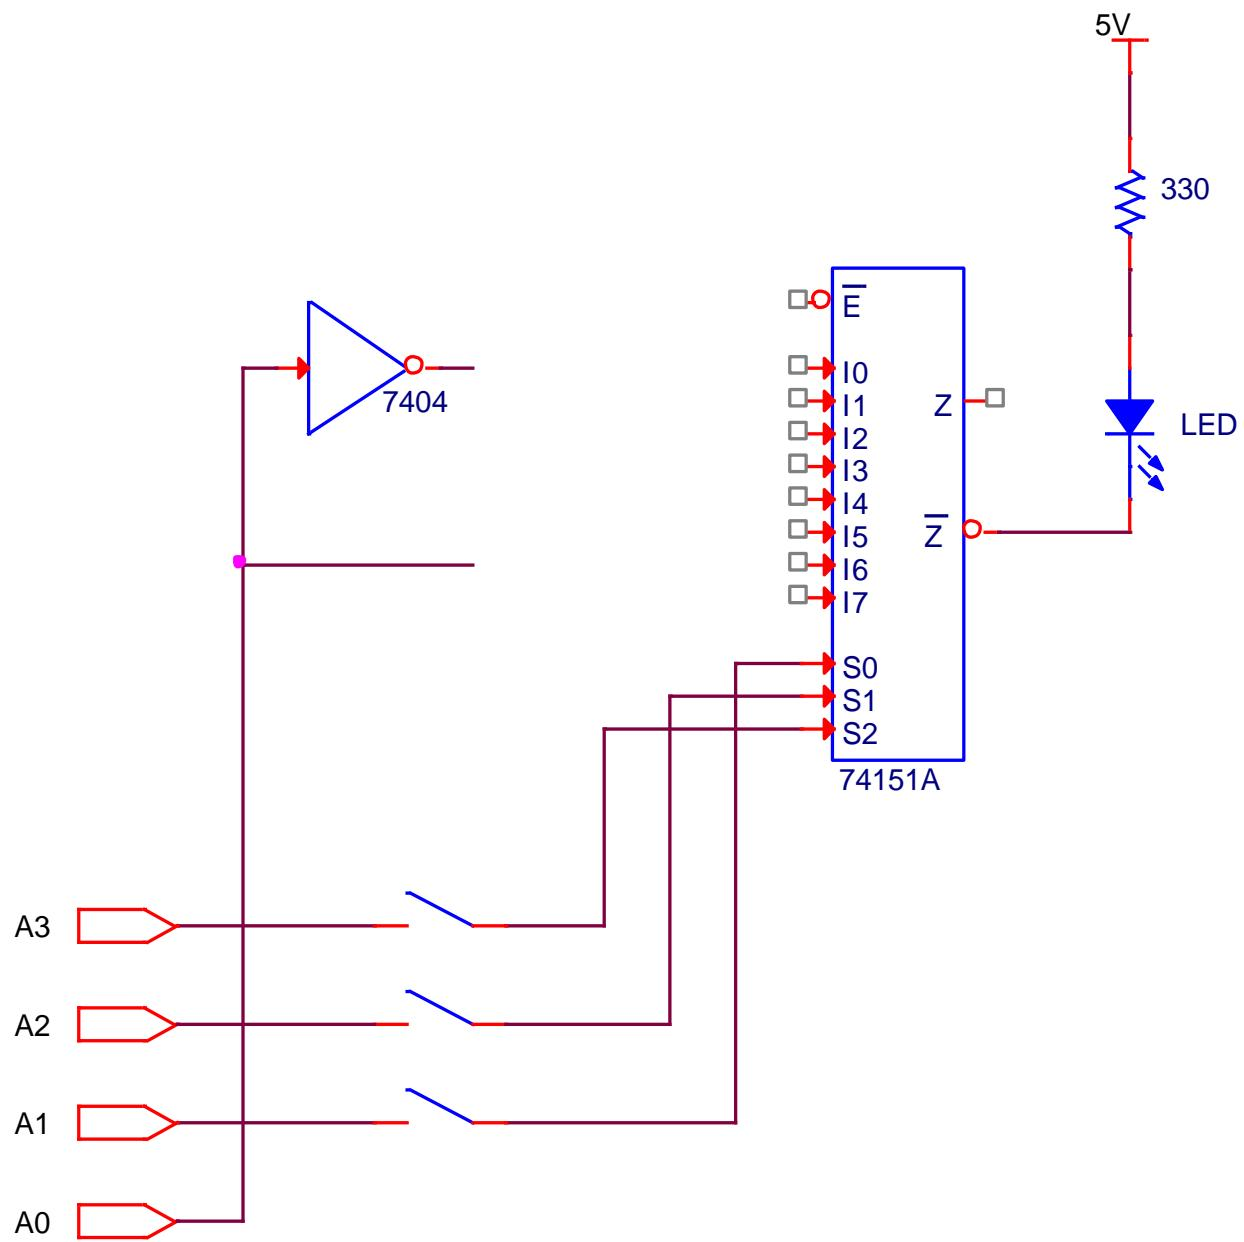

Figure 8.3
3. Build Figure 8.3 on a breadboard and verify your results with Table 8.3.
5. How can both an even and odd parity be obtained from the circuit in Figure 8.3?